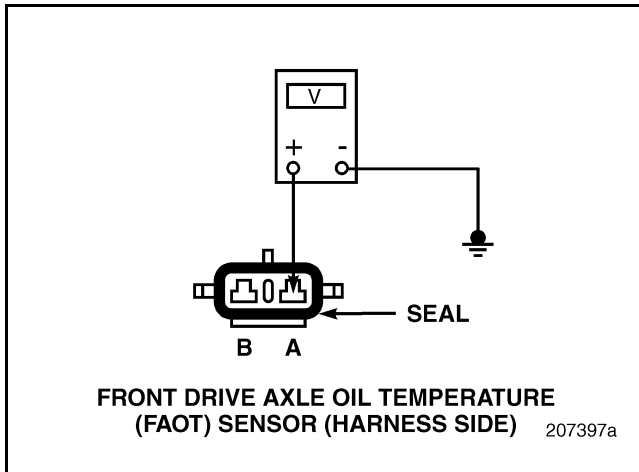

Figure 239
2. Measure the voltage between FAOT Sensor harness connector pin A and a good ground (see Figure 239).